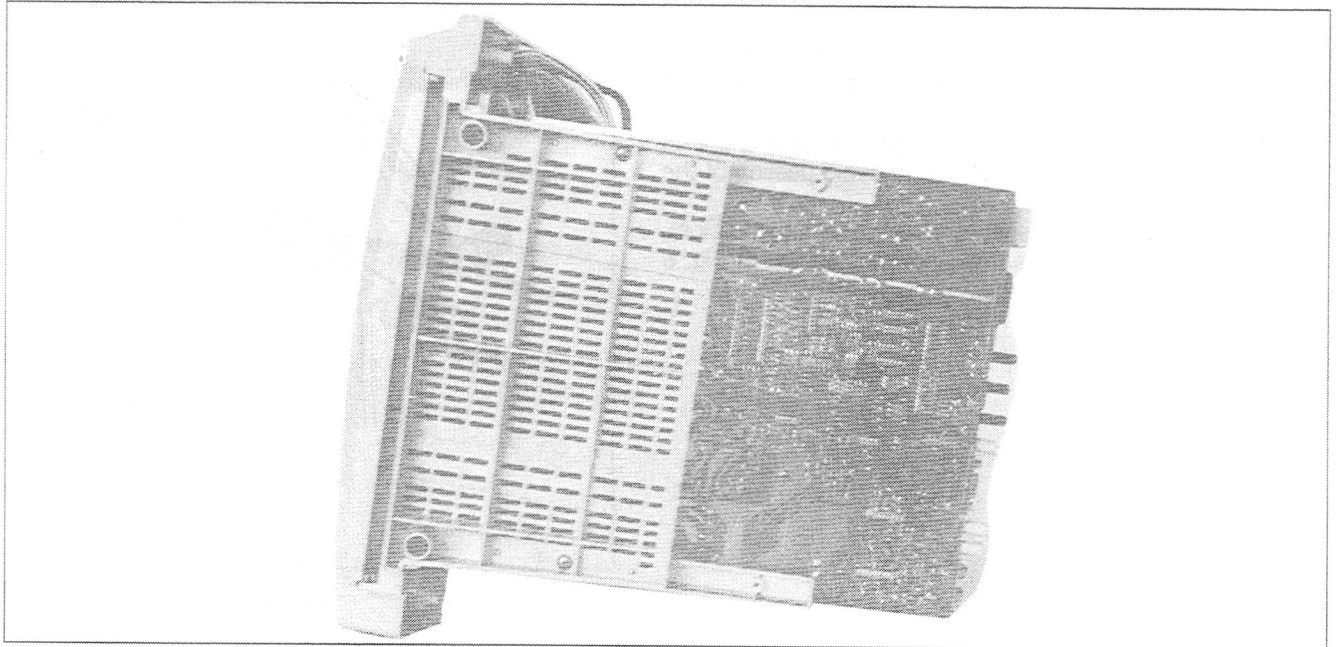

Fig. 6.
2. Repairing of main chassis can be done easily, if stood as shown in Fig. 6.